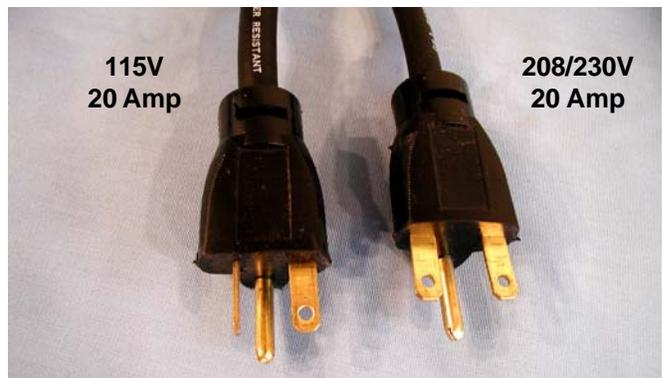

Figure 6. Electrical Plug
- E. Connect the power cord. The plug is designed for 208 or 230 volt/20 amp duty. Check the nameplate on your freezer for proper supply. The unit must be connected to a properly grounded receptacle. The electrical cord furnished as part of the freezer has a three prong grounding type plug (Fig. 6). The use of an extension cord is not recommended, if necessary use one with a size 12 gauge or heavier with ground wire. Do not use an adapter to get around grounding requirement.